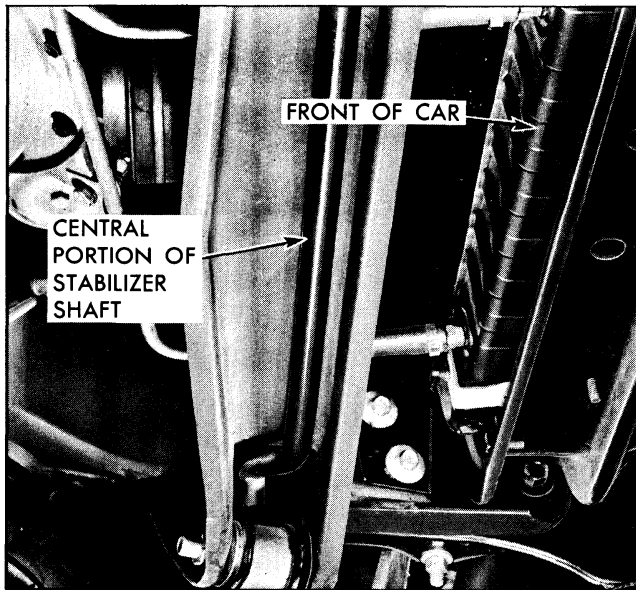

Fig. 3-28 Stabilizer Shaft Properly Positioned
4. Attach stabilizer shaft to frame by placing two brackets over rubber insulators on bar and installing mounting bolts to frame. Tighten bolts to 20-35 lb. ft. torque. When properly installed the central portion of the shaft will be toward the front of car (Fig. 3-28).